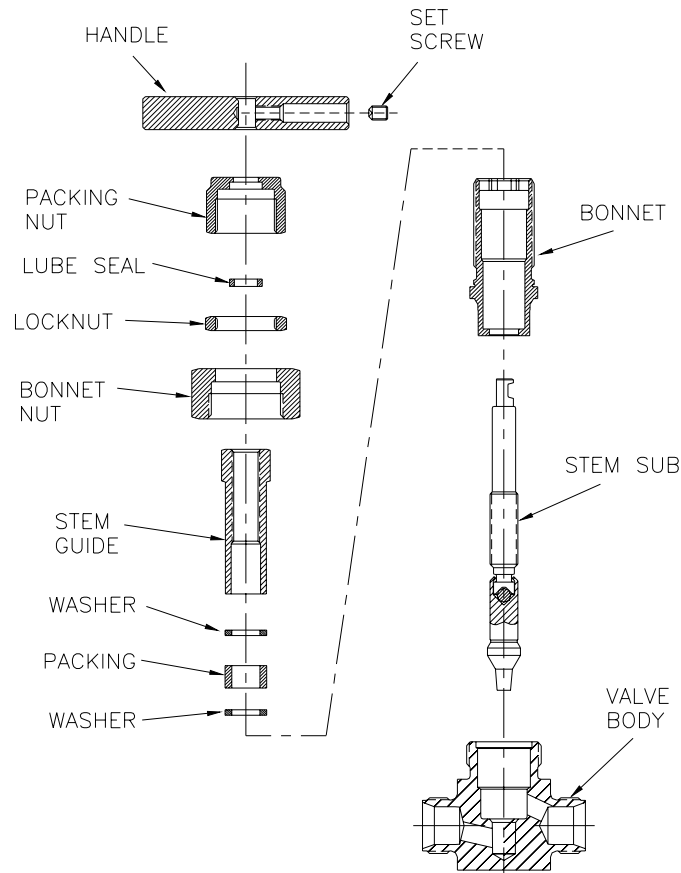

Figure 2: Size 6 & Size 12 Union Bonnet Valve Exploded View
6. Refer to Figures 2 and 3. Carefully install the Stem Sub-Assembly into the Bonnet from the lower end until hand-tight.